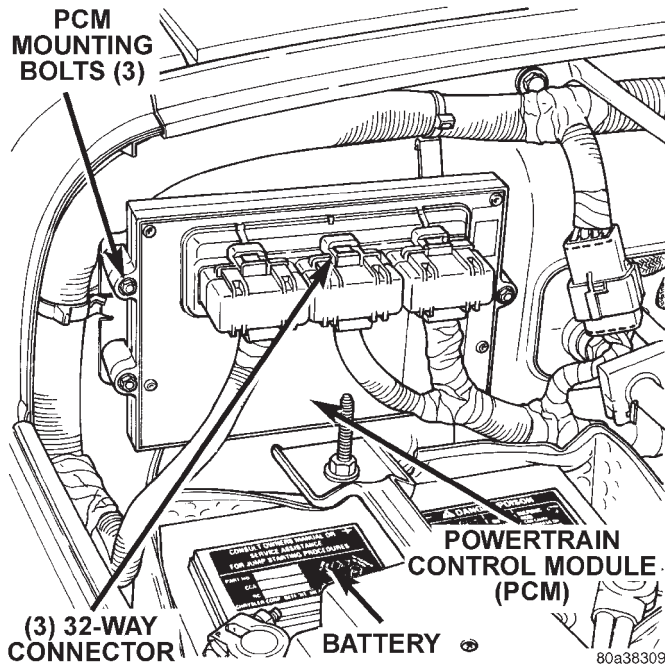
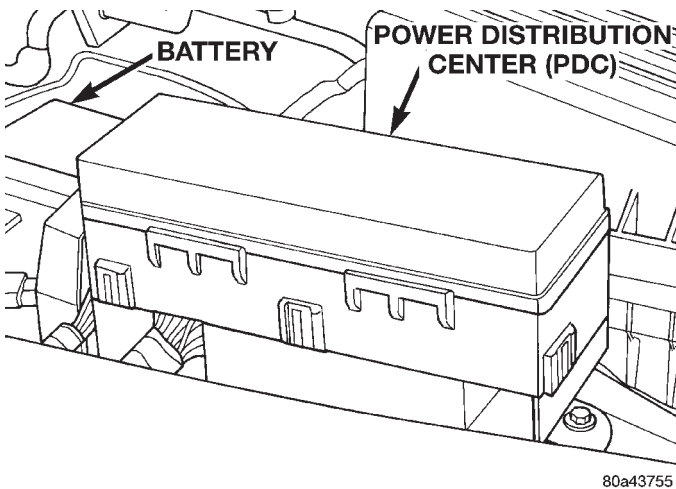

Fig. 15 Powertrain Control Module (PCM)
Fig. 16 Power Distribution Center (PDC)
(1) Verify that the three 32-way electrical connectors are fully inserted into connector of Powertrain Control Module (PCM) (Fig. 15).
(2) Inspect battery cable connections. Be sure that they are clean and tight.
(3) Inspect fuel pump relay and ASD relay connections. Inspect starter motor relay connections. Inspect relays for signs of physical damage and corrosion. The relays are located in Power Distribution Center (PDC) (Fig. 16). Refer to label on PDC cover for relay location.